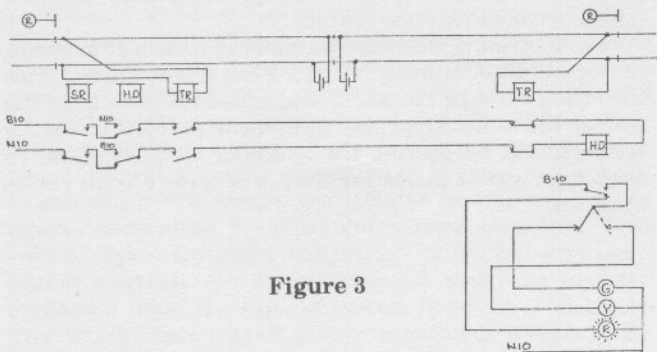

Figure 3
If, however, the train movement is in the opposite direction, the stick relay will not become energized. In this situation, the control (HD) relay will de-energize and the line circuits will in turn cause the control relay (HD) for the opposing signal in advance to be de-energized thereby displaying an aspect indicating Stop. Refer to Figure 3. The